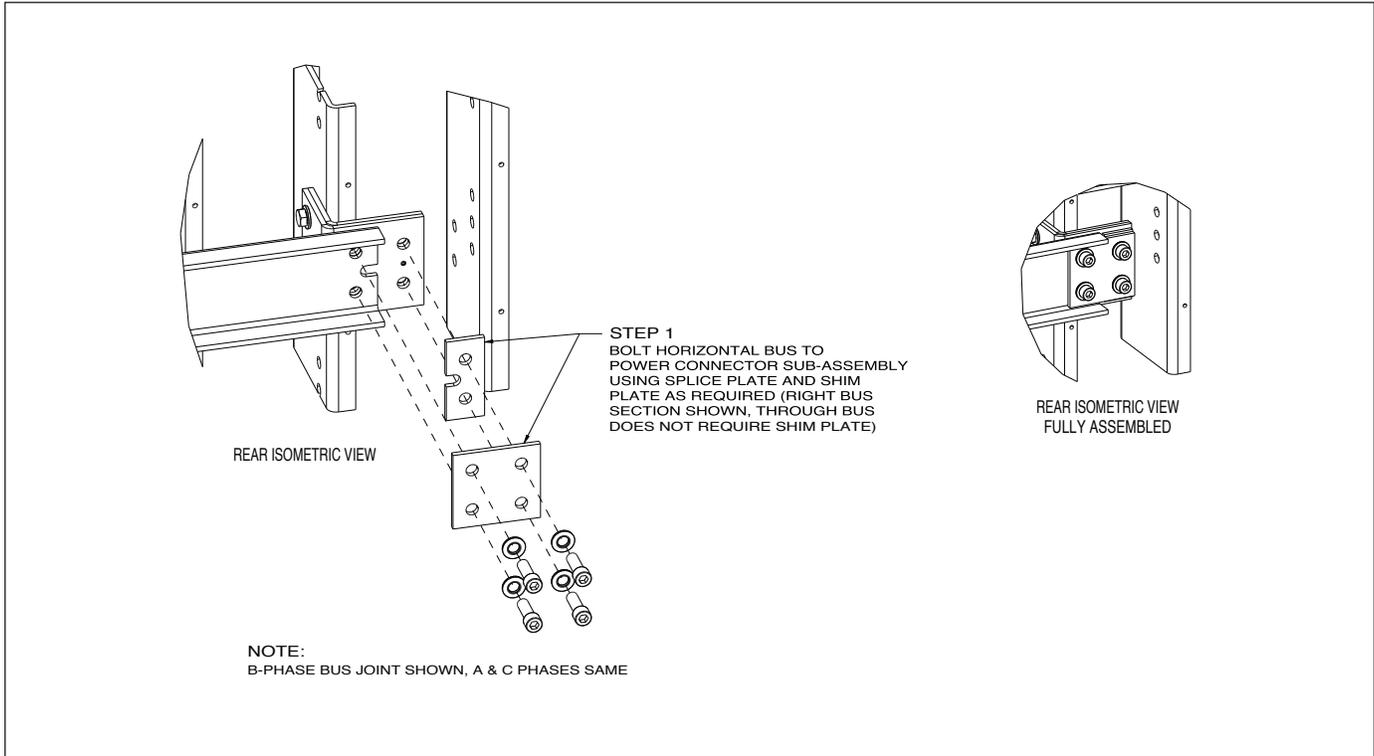

Figure 15. One lamination through bus
4. Refer to **Figures 15, 16 and 17** for method of bolting joints, and follow hardware tightening instructions which follow.